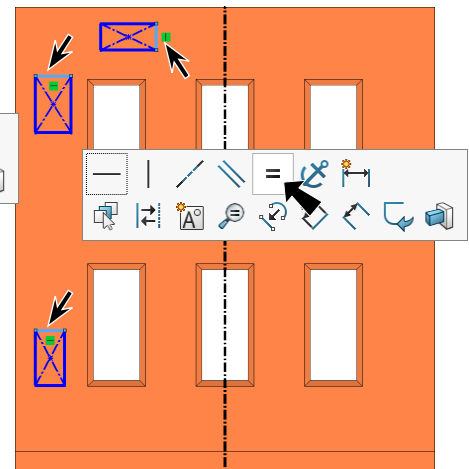

Fig. 58
Step 9. **Ctrl click a short side line of each rectangle** to select three lines. Release Ctrl key and click **Make Equal**  on the context toolbar, **Fig. 58**.